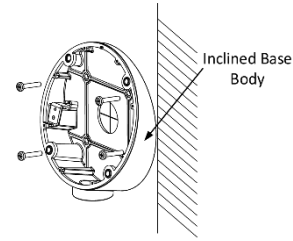

Figure 2-8 Fix the Inclined Base Body
5. Install the inclined base's body on the ceiling/wall with four PA4×25 screws, as shown in Figure 2-8.